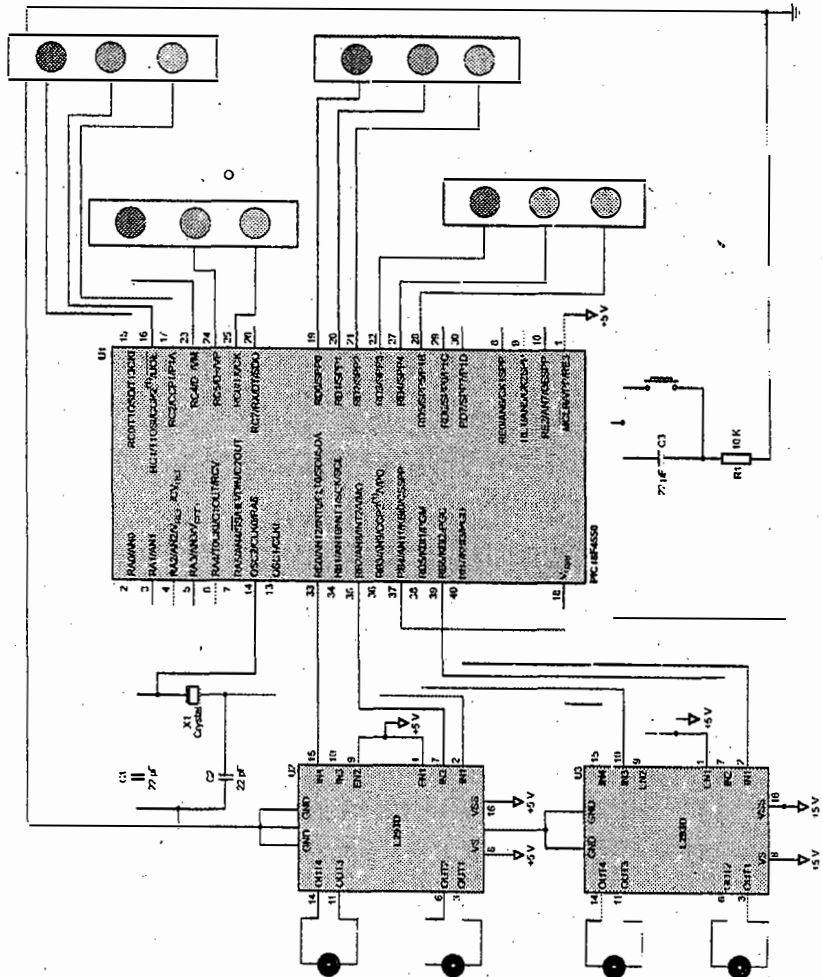

Fig. Q.21.2 : Traffic light controller system
**Ans. : Design of PIC test Board :** Fig. Q.21.2 shows the design of PIC test board for verifying the LED connected to port B, with switches and Buzzer to port D, with relay interface for Port A.